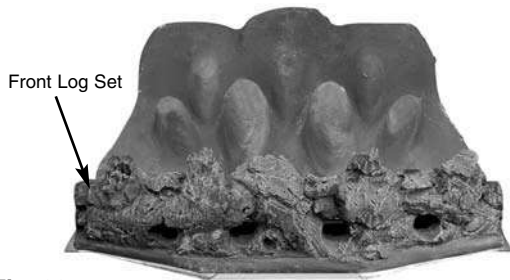

Fig. 33
2. Position the front log set on the front log retainer, making sure that the back edge is pushed up against the front of the burner strip (Fig. 33).